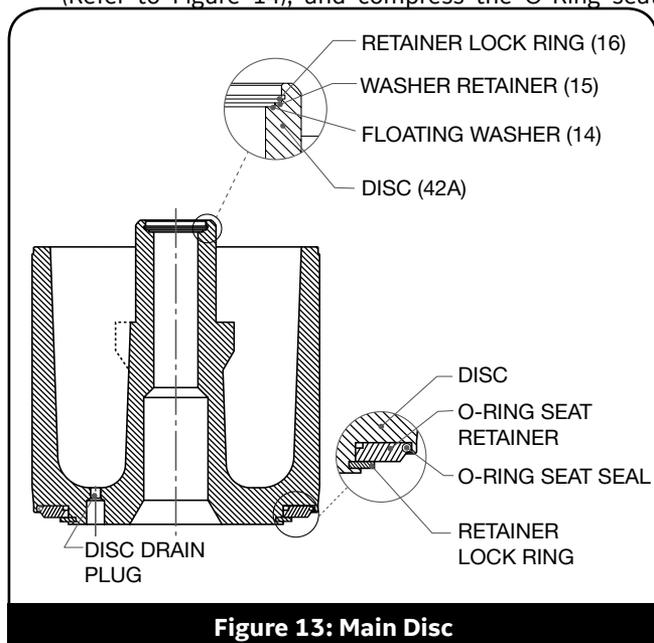
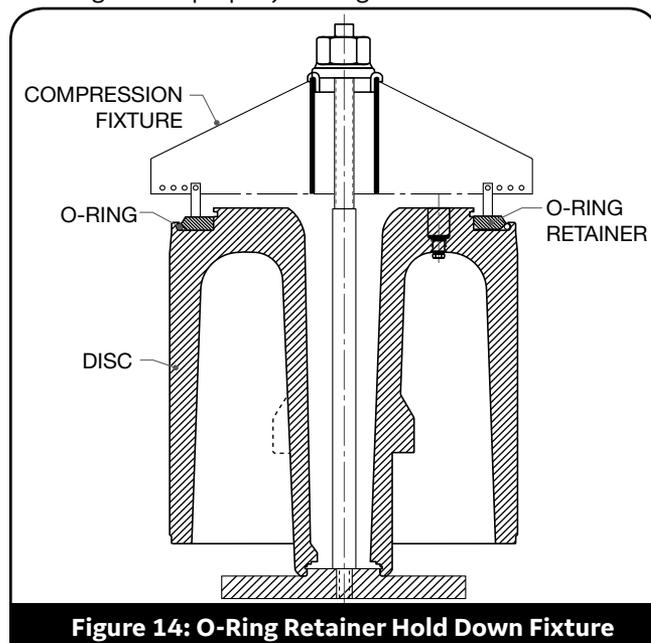

Figure 13: Main Disc
Figure 14: O-Ring Retainer Hold Down Fixture
1. When necessary to remove the Floating Washer (14), it is necessary to first remove the Retainer Lock Ring (16), (refer to Figure 13). Truarc Pliers (BHGE Part No. 5153305) can be used to remove the lock ring (16). The other parts, Washer Retainer (15) and Floating Washer (14) can now be removed. Reassemble in reverse order.
2. Whenever Main Valve Disc (7) is removed, the Drilled Drain Plug (6) should be inspected and passages cleaned by the insertion of a wire of sufficient length.
3. To replace the O-Ring Seal Seal (11), or remove the O-Ring Seat Retainer (5), it is necessary to remove the Retainer Lock Ring (4) (Refer to Figure 13). Place the disc on the compression fixture (BHGE Part No. 9336901), (Refer to Figure 14), and compress the O-Ring seat